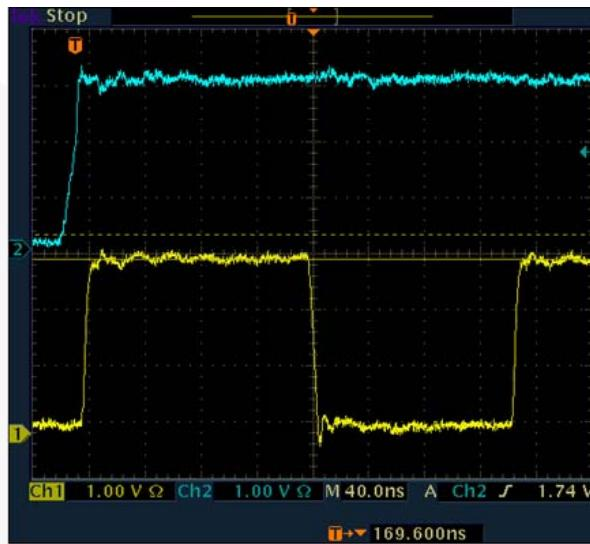

Figure 13. Scope Shot of I/O and Clock Signals
Due to open-drain technology, hosts and SIM cards do not use push-pull drivers on the I/O pin. Logic LOWs are pulled down (I_{sink}), while logic HIGHs are “let go” (3-state). During a logic LOW on the I/O pin, both series NpassGates are turned on and act like a very low resistive short between the host and the SIM card. When the host or card lets go of a previously held LOW on the I/O pin, the rise time is largely determined by the RC time constant, where R is the internal pull-up resistor ($10\text{ k}\Omega$) and C is the I/O signal trace capacitance. The FXLA2203 acts as a very low resistive short between the host and SIM card (during a LOW) until either of the port’s $V_{CC/2}$ thresholds are reached. After the RC time constant has reached the $V_{CC/2}$ threshold of either port, the port’s edge detector triggers both dynamic drivers to drive their respective ports in the LOW-to-HIGH (LH) direction, accelerating the rising edge. The resulting rise time resembles the CH2 waveform (blue) of Figure 13. Effectively, two distinct slew rates appear in the rise time. The first slew rate (slower) is the RC time constant of the I/O signal trace. The second slew rate (faster) is the dynamic driver accelerating edge.